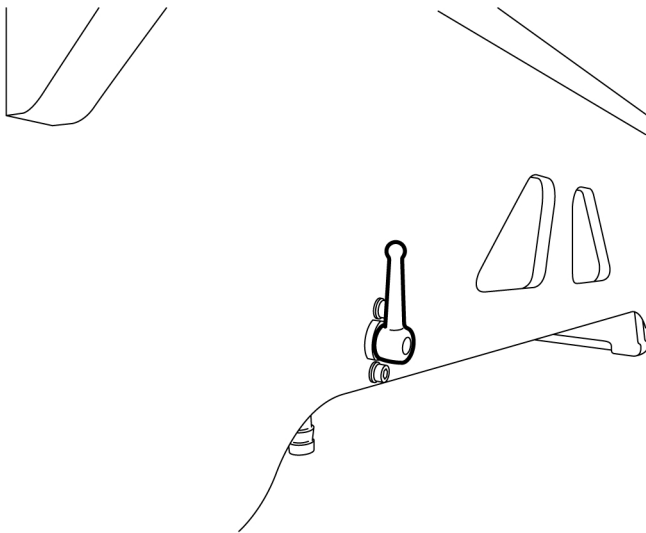

Figure 4-7. Tap for emptying the water tank
- Empty the water tank by turning the tap, see *Figure 4-7, page 29*.